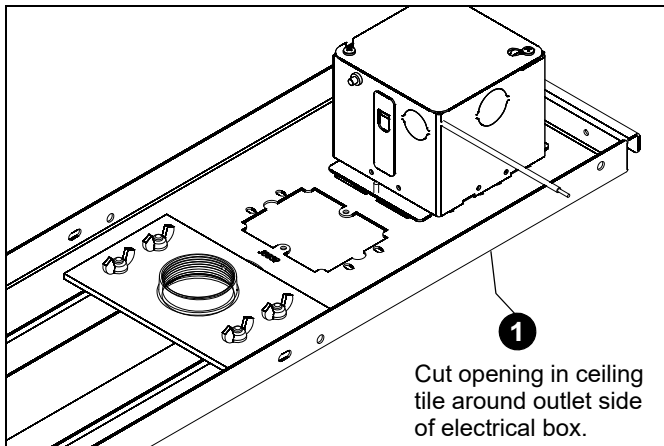

Figure 1
1. Cut a hole in the ceiling tile around the outlet side of the electrical box so that the ceiling tile will fit over the CMS440N. (See Figure 1)